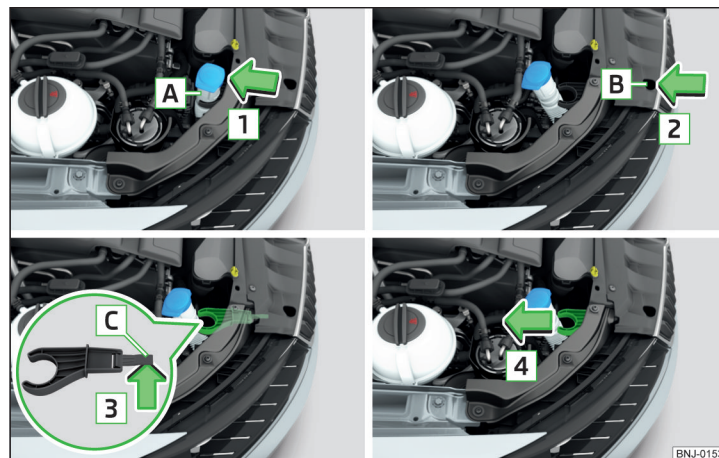

Fig. 205 Remove the holder of the wash water container nozzle
- Remove the container nozzle **A** from the holder in the direction of arrow **1** » Fig. 205.
- Slide the holder of the container nozzle in the opposite direction to the arrow **4** » Fig. 205.